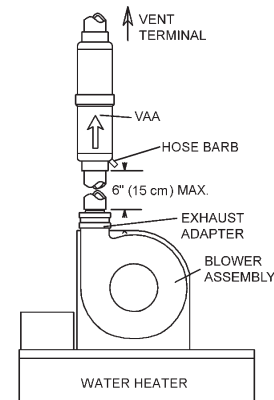

FIGURE 22: Typical Vertical Installation
1. The VAA is designed to accept two inch PVC pipe into the adapters on both ends. The VAA must be installed with the condensate hose barb pointing downward. See Figure 22. The VAA has an embossed flow arrow to reflect proper orientation. For optimum performance, install VAA as close as possible to the blower assembly.